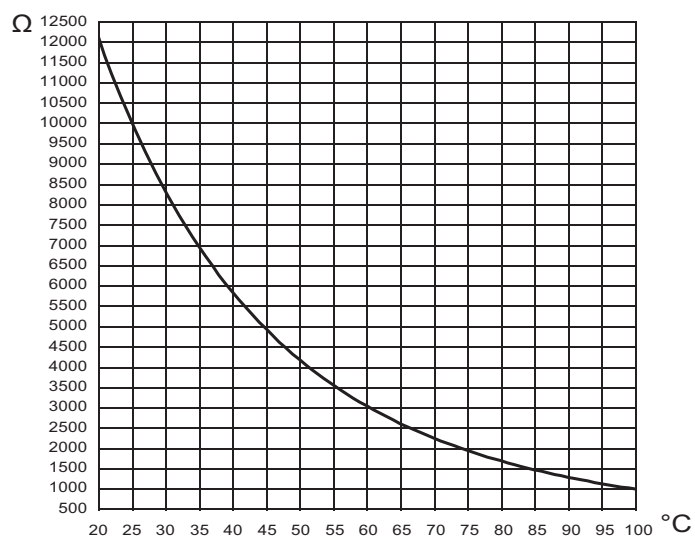

Figure 16.4
- 2 Measure the Flue temperature probe NTC and Safety thermal fuse electrical resistance at the ambient temperature and check it according to the graph in (Figure 16.4).